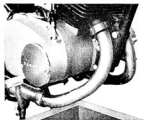

Fig. 4-1-1
1. Drain the transmission oil after warming up the engine for one minute or so. (Fig. 4-1-1)